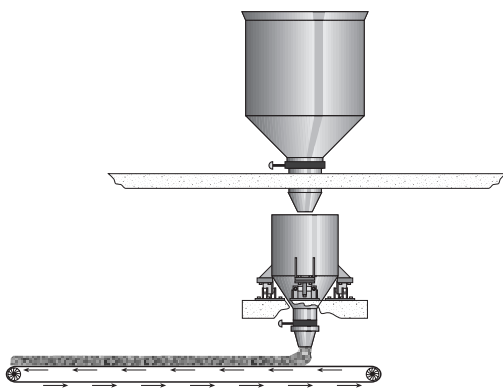

Figure 1-6
- B.** Figure 1-6 below illustrates a weigh hopper positioned directly under the storage silo.